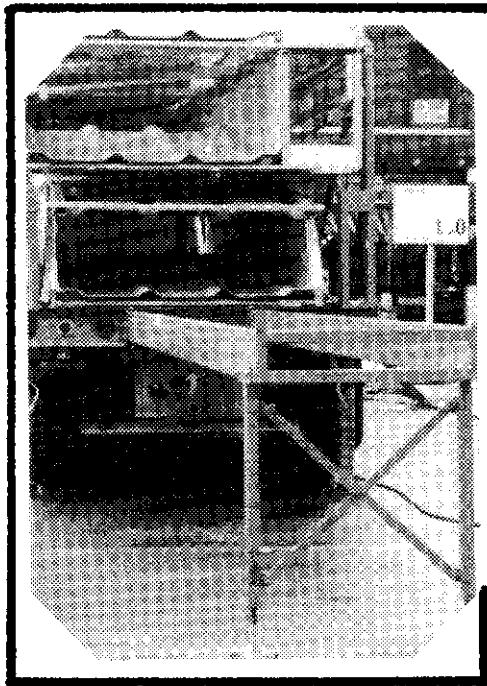

FIG. 1
3. PULL OUT REAR TRAILER EXTENTION TO THE RED LINE. REMOVE EXTENTION SUPPORT FROM FRONT OF LEFT HAND POSSUM BELLY. ATTACH TO EXTENTION AND ADJUST FEET TO SUPPORT AT NEEDED POSITION. (Fig. 1)